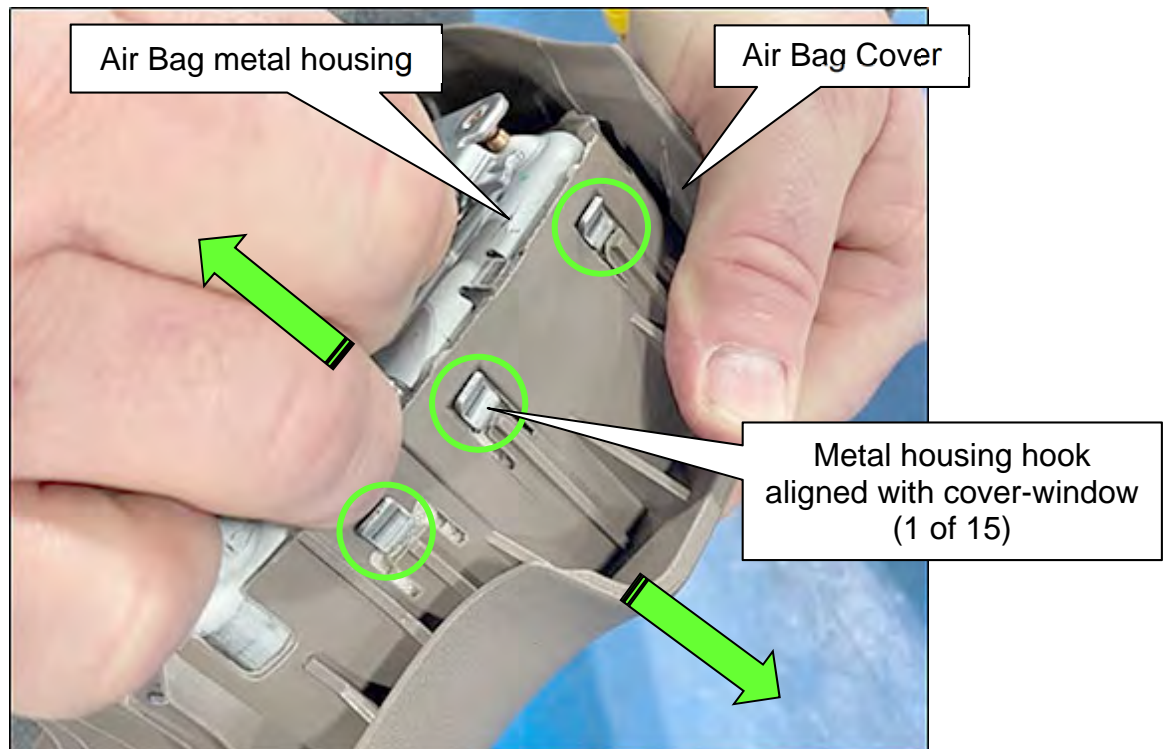

Figure 28
28. Verify that all fifteen (15) metal housing hooks are aligned and fully engaged into each associated cover-window.
29. Slowly pull the Air Bag metal housing and the Air Bag Cover apart (Figure 28) to lock all fifteen (15) metal housing hooks into each associated cover-window location.
- Three (3) metal housing hooks (Figure 28) shown with associated cover-window, for reference.